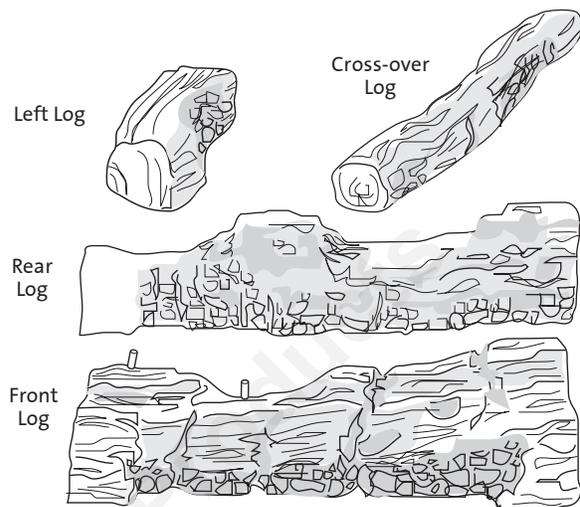

Figure 20. GF 600 DV Log set parts.
- 2. Install the Rear Log**, oriented as shown in Fig. 20. Place the log on the shelf (Rear Log Support) against the back wall of the firebox. Push it over to the right rear corner.